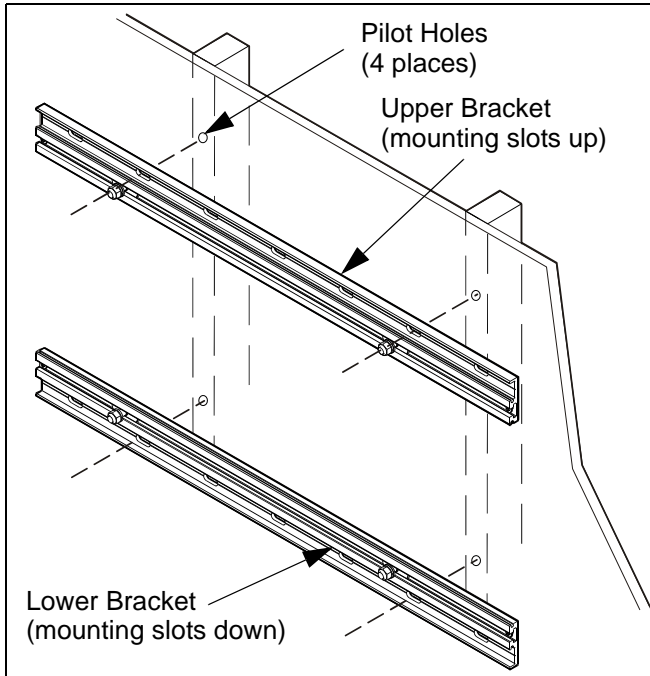

Figure 6: Mount Lateral Shift Brackets on Wall
6. Position upper bracket against wall with mounting slots up and align with pilot holes. (see Figure 6)
8. Position lower bracket against wall with mounting slots up and align with pilot holes. (see Figure 6)